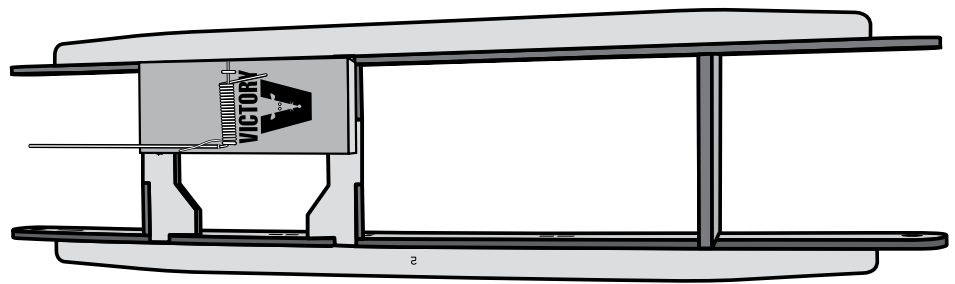

Figure 14
- With the lever arm extending toward the front of the vehicle, glue the mousetrap to the upper right-hand corner of the deck and right side rail (Figure 14). Allow glue to dry at least two hours.